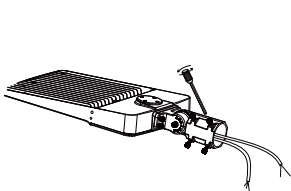

Figure 1-1
1. ADJUSTABLE FITTER MOUNTING (AM)
- Step 1: Loosen the 4 screws on the bracket with a screwdriver and make ensure that the bracket can fit into the light pole, Figure 1-1;